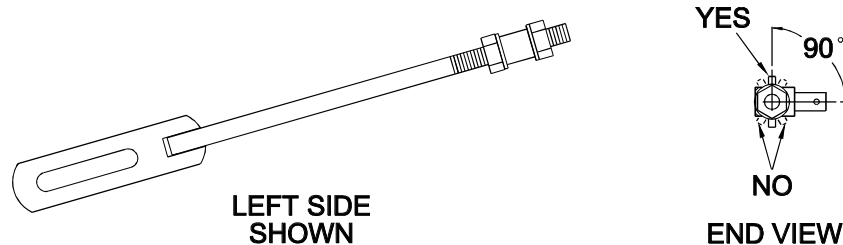

FIGURE 11
2. Loosen the front nut on **left** hydro control link as shown in Figure 10. Turn the rear control linkage adjusting nut counter-clockwise until wheel rotates forward. Turn the rear nut of left control link clockwise 1/4 of a turn at a time, stopping to move the speed control forward and back to neutral, until left wheel stops rotating forward. Turn the nut an additional 1/2 turn and tighten the front jam nut making sure not to put a bind on the linkage. Make sure flat part of linkage is perpendicular to pin part of swivel. See Figure 11.